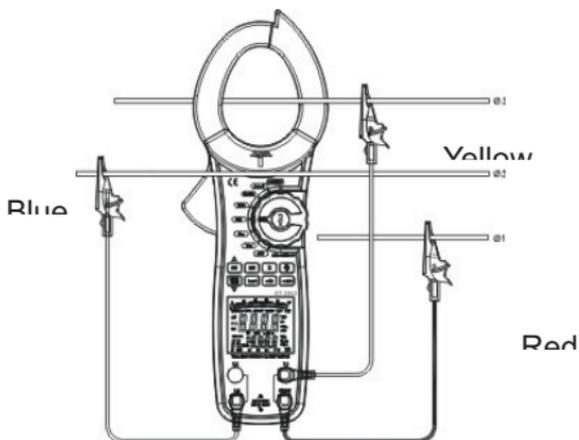

Figure 15
- When measuring 3 phase 3 wires, Hold **SEL** for 5 seconds and the Meter show **303W**, press **SEL** again for 5 seconds to exit 3 phase 3 wires ,connecting the Meter as figure 15.
In figure 15 $\Sigma W = W2 + W3$.